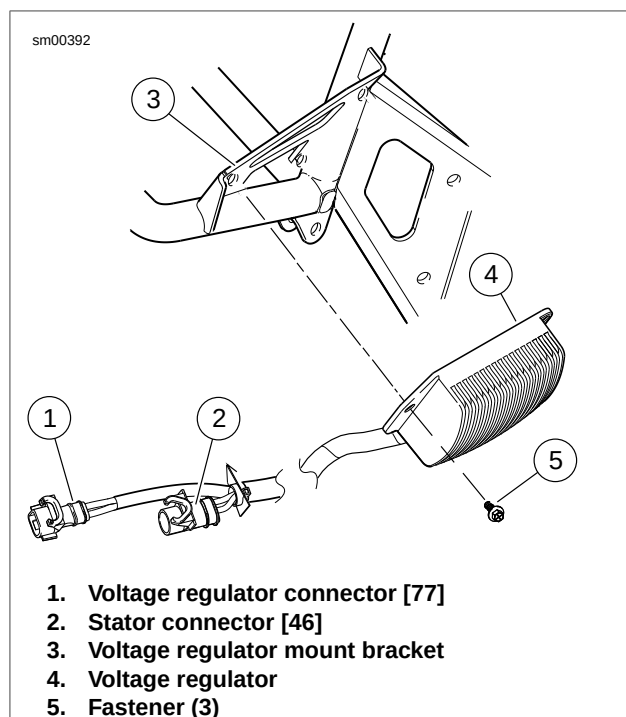

Figure 7-24. Voltage Regulator
3. See Figure 7-24. Disconnect stator connector [46] (1) and voltage regulator connector [77] (2) located under the left ram air scoop. See 7.25 SPROCKET COVER WIRING.
4. Remove fasteners (5) and voltage regulator (4) from bracket (3).
1. See Figure 7-24. Attach **new** voltage regulator (4) to bracket (3). Tighten fasteners (5) to 30-60 **in-lbs** (3.5-6.9 Nm).